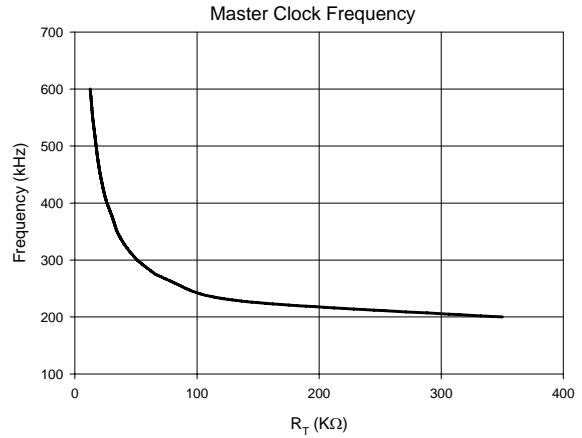

Figure 18.  $R_T$  vs. Frequency
The clock frequency on the oscillator is set using an external resistor, connected between R(T) pin and ground. The frequency follows the graph as shown in Figure 18. The minimum clock frequency is 200kHz which is when R(T) pin is left open. Select the value of R(T) as shown in the equation below. This equation is valid for all  $F_{OSC} > 200\text{kHz}$ .